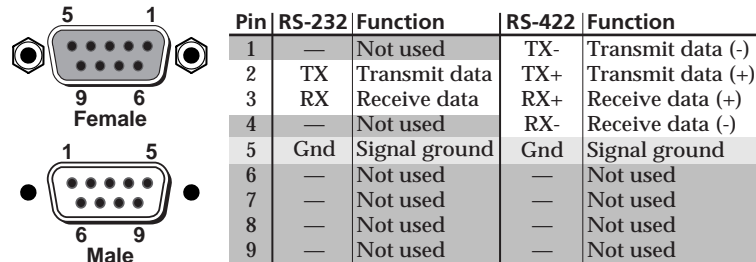

Figure 2-4 — RS-232/RS-422 port pin assignments
- ④ **RS-232/RS-422 port** — If desired, connect a host device, such as a computer or touch panel control, to the Digital XPoint via this 9-pin D connector for serial RS-232/RS-422 control (figure 2-4).